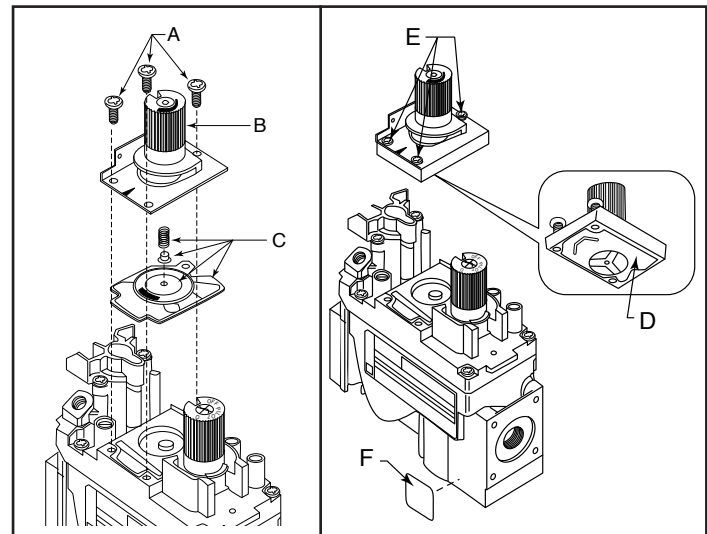

**Figure 50** - Remove rear log bracket and left and right log bracket assembly.
5. Remove the rear log bracket by unfastening the screw. (Figure 50)
6. Remove the right and left log bracket assembly by unfastening the two screws which hold the burner in place. (Figure 50)
1. Locate pilot. (Figure 50)